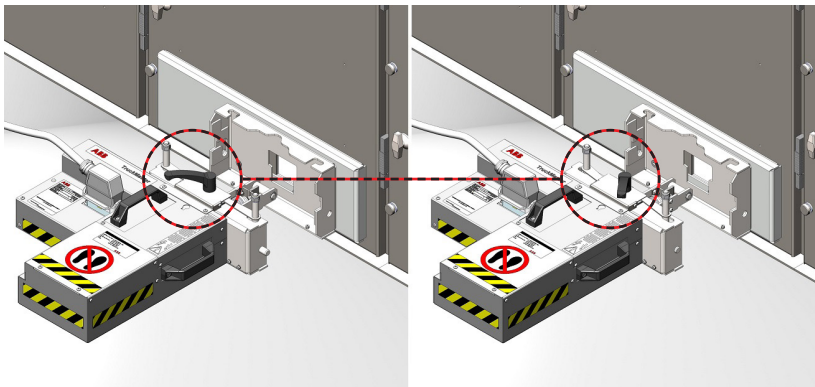

Fig. 12
3. Hold the locking handle (fig. 5 item 4) and turn it completely counter-clockwise as shown in fig. 12 (item 1)
1. Release the locking handle (fig. 12) and decouple the locking pins